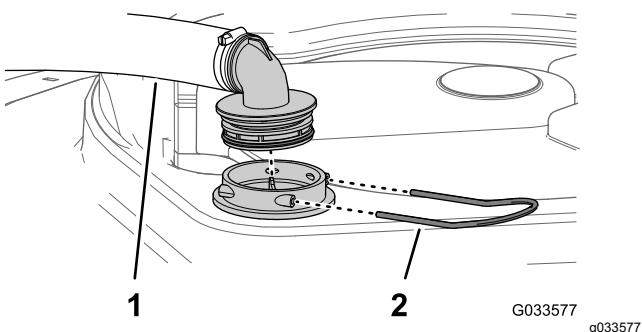

Figure 107
2. At the top of the sprayer tank, remove the retainer that secures the hose fitting attached to the large hose from the filter housing (Figure 107).
3. Remove the hose and hose fitting from the filter housing (Figure 107).